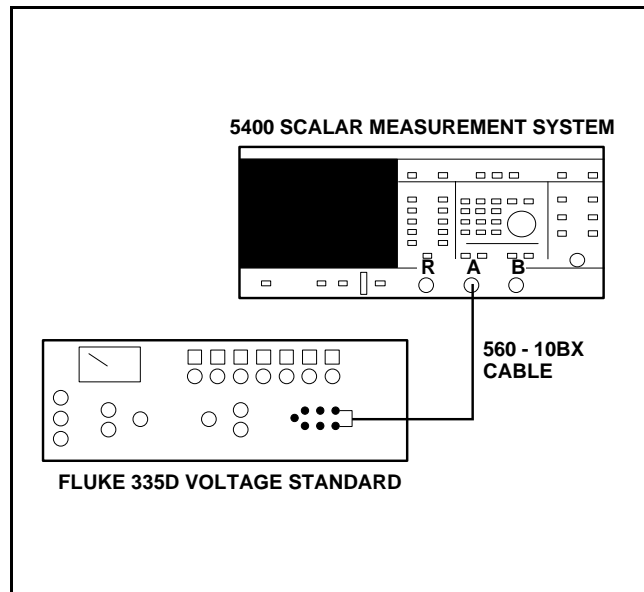

Figure 5-3. Equipment Setup for DC Voltage Method Signal Channel Verification Test
1. Set up the equipment as shown in Figure 5-3, and turn the equipment on.